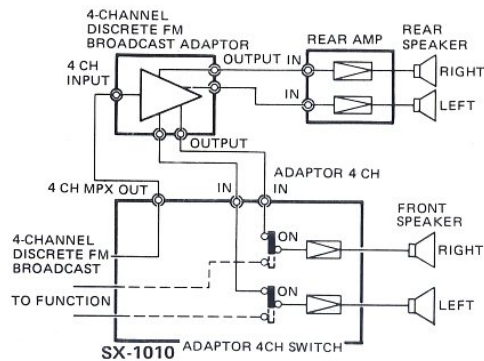

Fig. 22
1. The adaptor is connected as shown in Fig. 22 to the 4CH MPX OUTPUT jacks of the receiver.